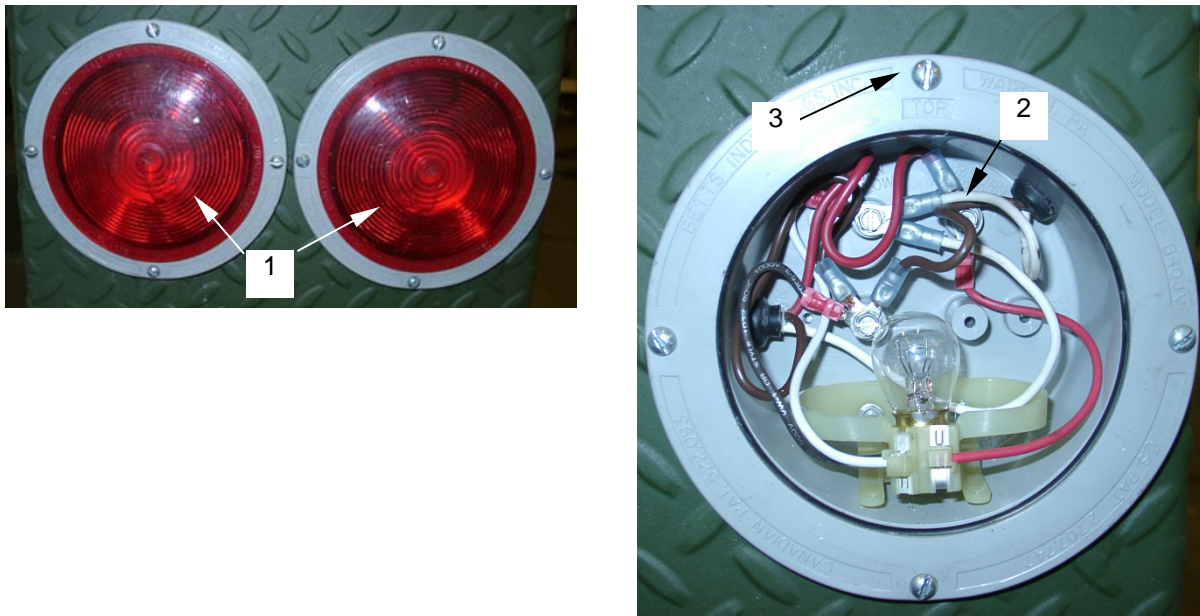

Figure 4. Rear and Side Light Fixture
- a. Remove lens cover (**figure 4, item 1**) from light fixture.
- b. Tag and disconnect wires (**figure 4, item 2**) from light fixture.
- c. Loosen and remove fixture mounting screws (**figure 4, item 3**) and nuts
- g. Fasten light fixture with mounting screws (**figure 4, item 3**) and nuts.
- h. Install lens cover (**figure 4, item 1**) on light fixture.